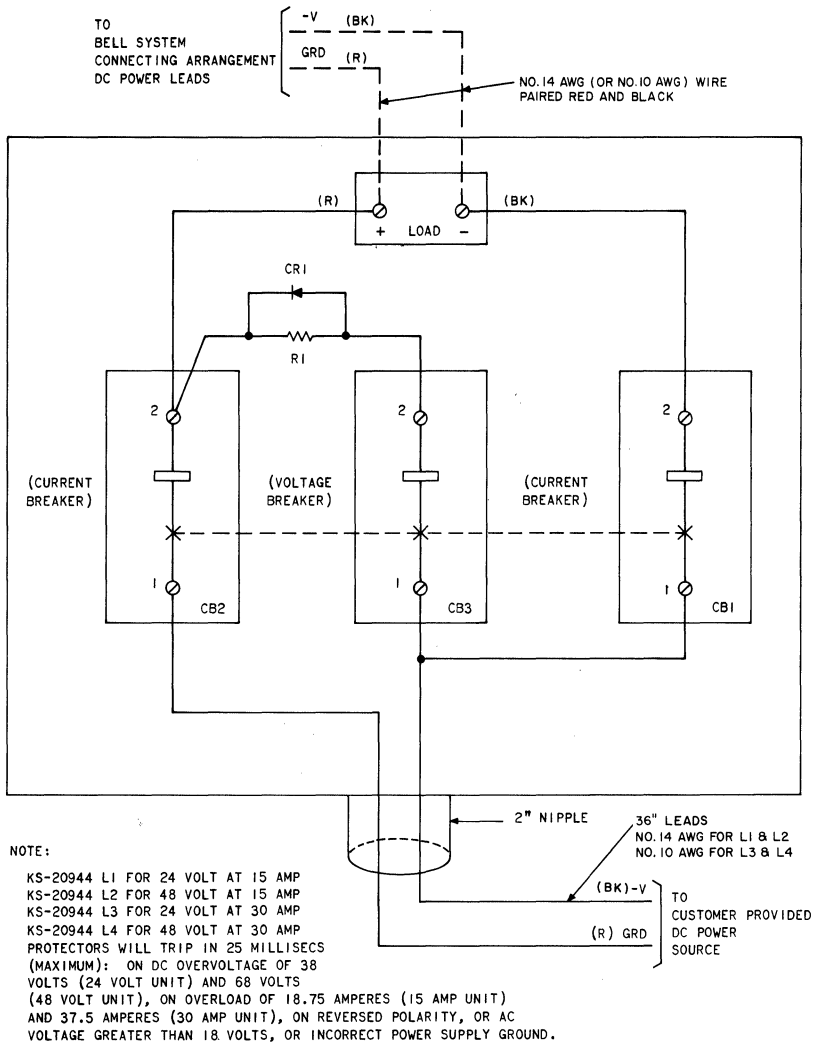

Fig. 13—Schematic—KS-20944 Protector
**3.26** Set circuit breaker lever to OFF and connect as shown in Fig. 13 following local wiring instructions. The customer must connect his power supply to the red (GRD) and black (-V) 14-gauge leads extending from the unit.
- 6.06** ◆For connection information using the KS-20944 Protector, refer to Fig. 13.◆